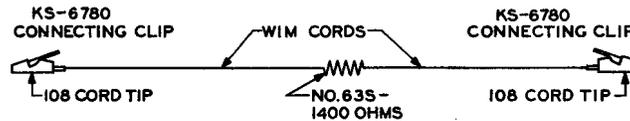

Fig. 1
2.10 Two W1M cords and one No. 63S resistance, to be assembled locally as shown in Fig. 1.
- 10 Connect one KS-6780 clip of special test cord, shown in Fig. 1, to ground at line finder frame